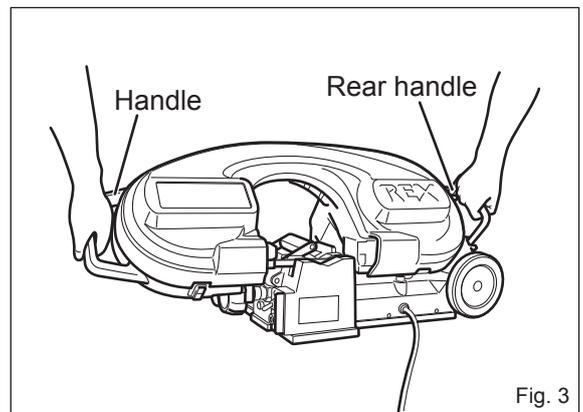

Fig. 3
(2) When moving the unit by carrying it, lift it from both the front and rear handles. DO NOT TRY TO LIFT IT BY YOUR SELF. The unit should always be carried by two or more people. (Fig. 3)